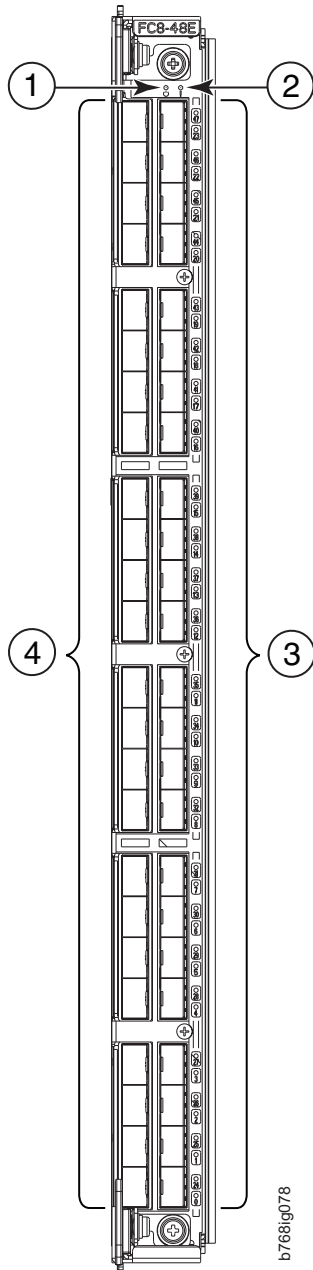

Figure 52. FC8-48E port blade
- Figure 52 on page 175 shows an FC8-48E port blade